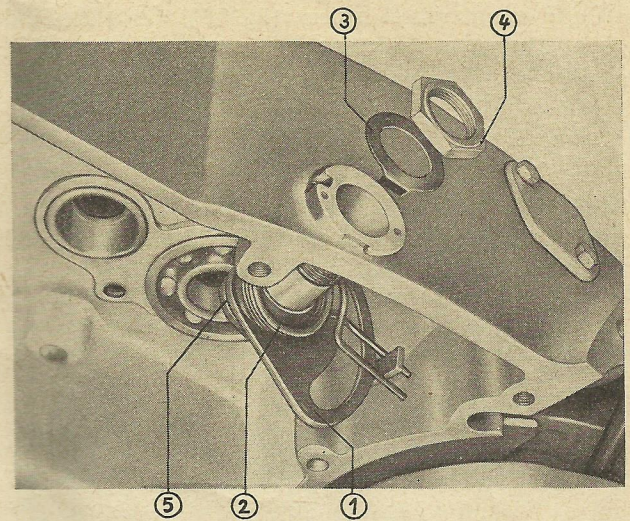
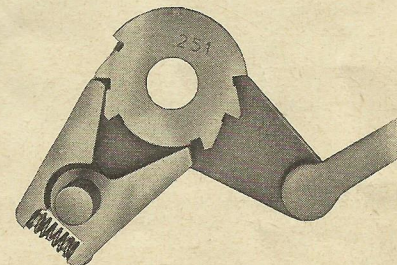
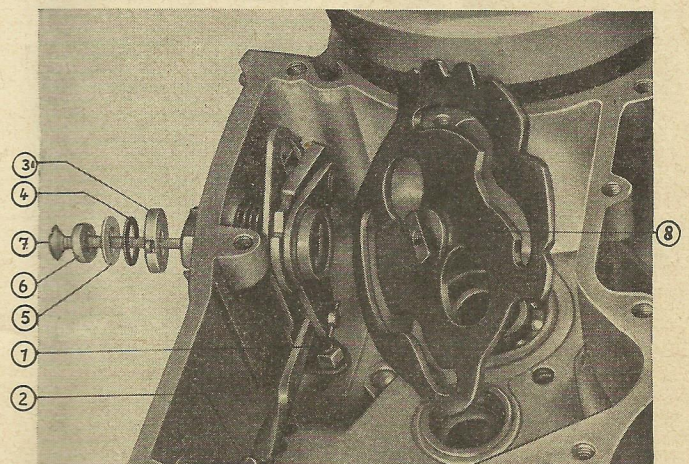

Fig. 7: Assembling the supporting plate
Fig. 8: Ratchet wheel of automatic gear shift
Fig. 9: Gearchange
1. Unscrew the countersunk screw (fig. 9/7), now shim plates and spring housing (fig. 9/3) and shift guide plate with curved gates (fig. 9/8) can be removed.
2. Dismantle snapping from interior gear shift lever and remove the latter with ratchet wheel (fig. 8). Push out guide sleeve.
3. Unfasten countersunk screw (fig. 9/1) and nut (fig. 7/4) and remove supporting plate (fig. 7/1).
1. Assemble supporting plate (fig. 7/1) together with hairpin spring (fig. 7/2), put on securing disc (fig. 7/3) and screw on nut (fig. 7/4). Screw in countersunk screw (fig. 9/1) from outside and secure the latter by a blow with a blunt chisel, then tighten nut (fig. 7/4).
2. Insert guide sleeve in the bushing of the supporting plate (fig. 7/5), the slotted end pointing towards the interior of the gearbox, fit interior gear shift lever (fig. 9/2) and secure it from the outside by means of the snapping. Insert ratchet wheel in the position indicated in fig. 8 (fig. 9).
3. Install spring housing (fig. 9/3), spacer shim (fig. 9/4), disc (fig. 9/5) intermediate disc (fig. 9/6)
and countersunk screw (fig. 9/7). With the aid of the gear indicator bring slot of the guide sleeve into alignment with the slot of the ratchet wheel. Fit gear shift guide plate (fig. 9/8), tighten countersunk screw and secure it with a punch mark.